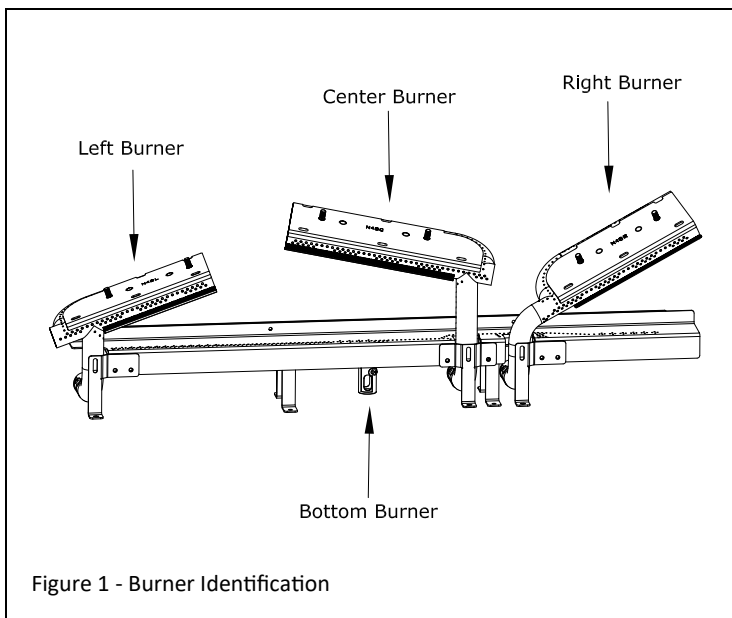

Figure 1 - Burner Identification
3. Remove light kit, left, center, right, and bottom burner assemblies. Refer to Figure 1 for burner identification.